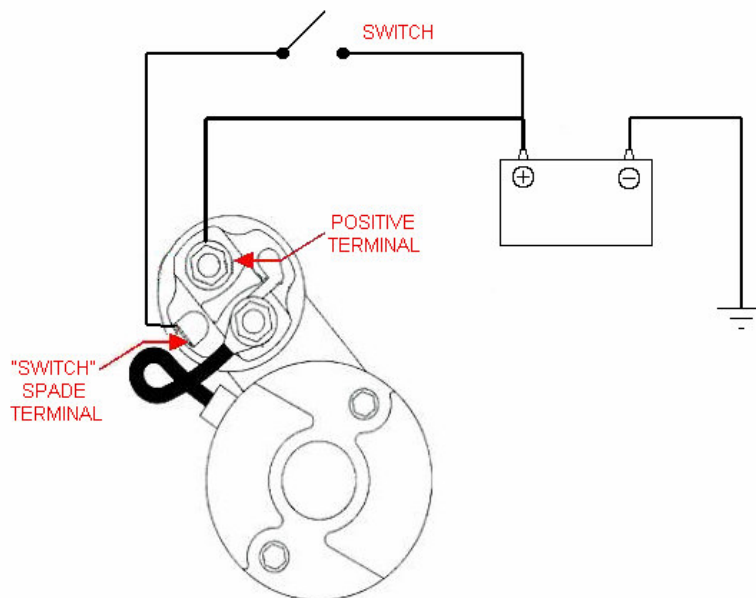

Figure 3: Standard set-up
- a. Connect the battery cable to the unused stud. Refer to Figure 3.